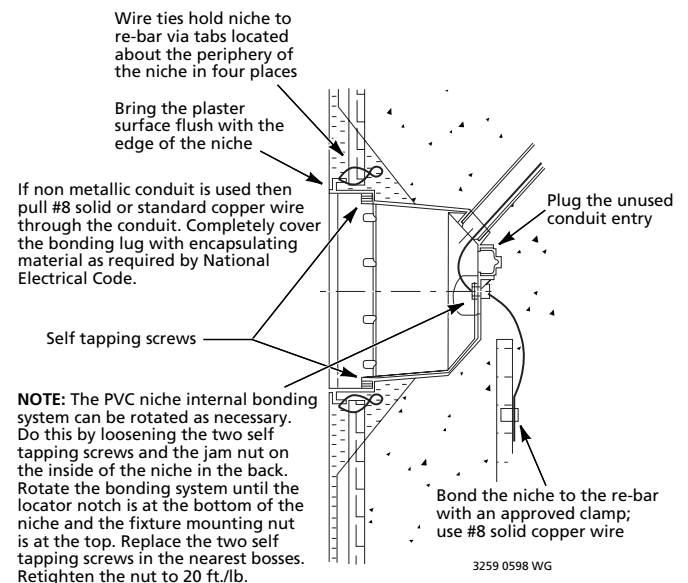

Figure 4: Gunite Pool Niche Installation
(Refer to Figure 4 For Model Numbers, 05163-2352 through 2357, and 05163-2394).
- 1. Wire the niche to the re-bar in the desired location (be sure that the topmost part of the lens will be more than 18" below the water level). Make sure that the odd spaced holes are at the top and bottom and that the niche is aligned so that the alignment notch for the lamp housing is at the bottom of the niche (threaded hole at the top - Figure 4).